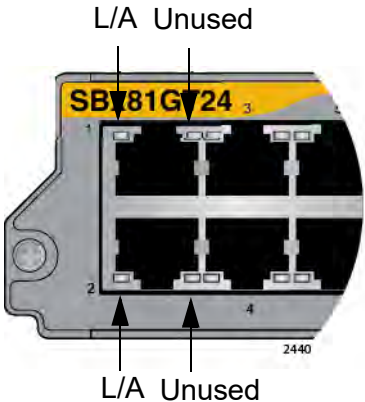

Figure 14. Port LEDs on the AT-SBx81GT24 Line Card
**LEDs** The ports on the AT-SBx81GT24 Line Card have two LEDs. Only the left LED on each port is functional. The LEDs are shown in Figure 14 and described in Table 7.